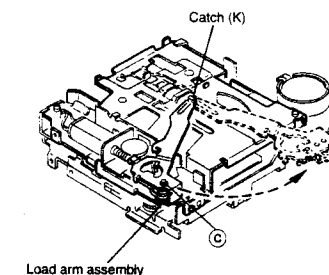

Fig. 12
1. Using tweezers, detach the Mylar washer ⑥ securing the load arm assembly and pull out the load arm assembly. (Fig. 12)
2. Shift the load arm assembly counterclockwise. (Fig. 12)
3. Remove the load arm assembly from the catch (K). (Fig. 12)